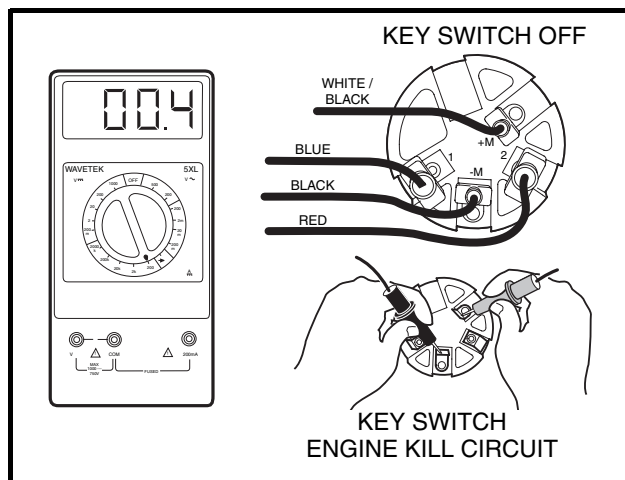

Figure 11-34 Test Key Switch – Engine Kill Circuit
4. Place the red (+) probe on the (+M) terminal and the black (–) probe on the (–M) terminal. With the key switch OFF, the reading should be continuity. With the key switch ON, the reading should be no continuity. If either reading is incorrect, replace the key switch (Figure 11-34, Page 11-31).